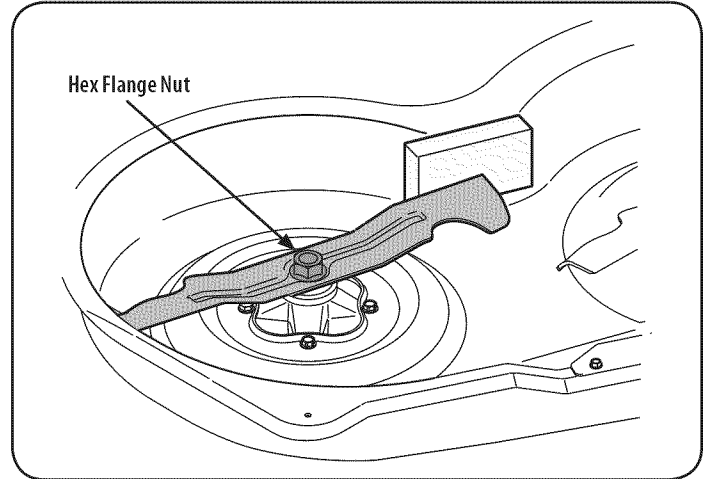

Figure 20
2. Place a block of wood between the center deck housing baffle and the cutting blade to act as a stabilizer. See Figure 20.